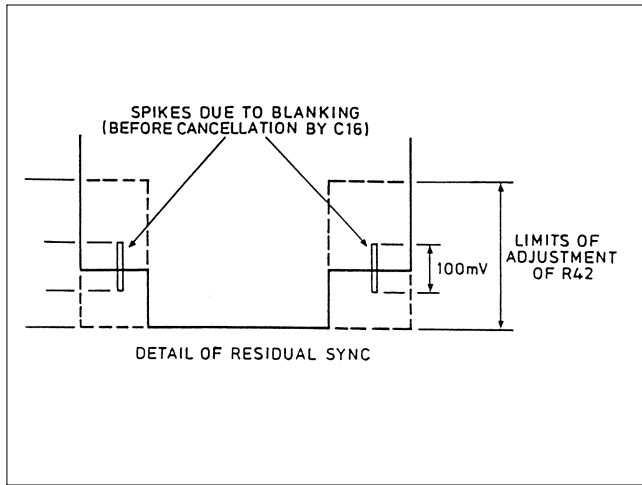

Figure 2-16 Minimisation of switching spike
- c. Adjust the offset null control R42 (BLANK STEP) to remove the step caused by offsets, and the spike cancelling trimmer C16 (SPIKE) to minimise the switching spike, as shown in Figure 2-16.